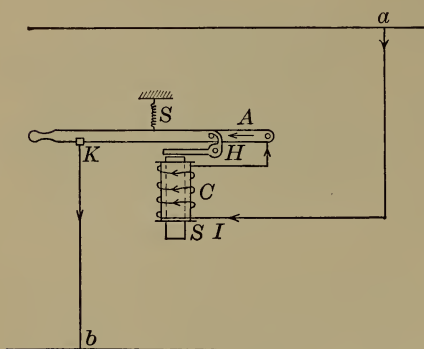

FIGURE 169.—WIRING DIAGRAM OF CIRCUIT-BREAKER.
**204. Street Car Circuit-breaker.** — As a safety device a so-called *circuit-breaker* is put on street cars. Its purpose is to break the circuit whenever the current becomes too large. It is constructed as in Figure 169.